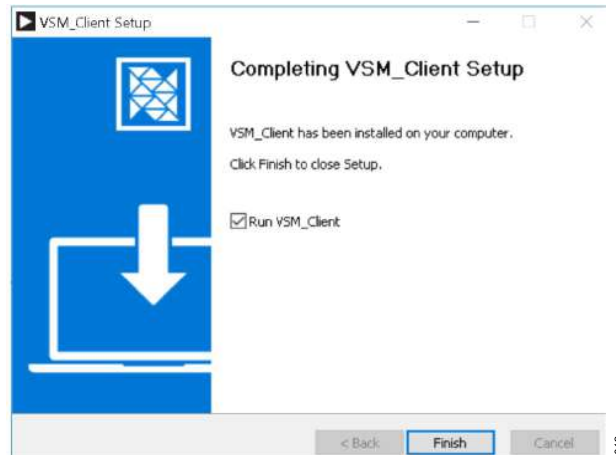

Figure 12. Installation Complete
5. When the installation is complete, click **Finish** to complete the installation process (see Figure 12).